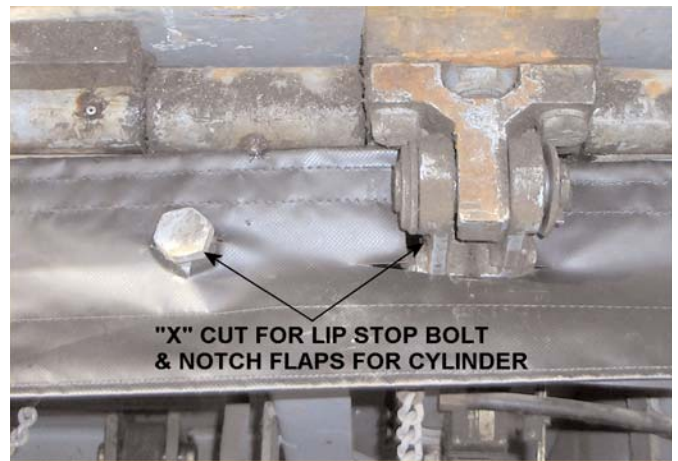

FIGURE 10
5. Center the top curtain on the header. (Note: Curtain width will be trimmed in a later operation.) Mark the location of the lip cylinder, lip stop bolt and or any other obstacle. At these locations, the curtain must be notched out to allow the unit to function correctly. A "X" cut can be made for the lip stop bolt, while a notch & slice at the lip extending cylinder is required. (See Figure 10.)
7. Center the top curtain on the header. (Note: Curtain width will be trimmed in a later operation.) Mark the location of the lip cylinder, lip stop bolt and or any other obstacle. At these locations, the curtain must be notched out to allow the unit to function correctly. A "X" cut can be made for the lip stop bolt, while a notch & slice at the lip extending cylinder is required. (See Figure 10 as a reference.)